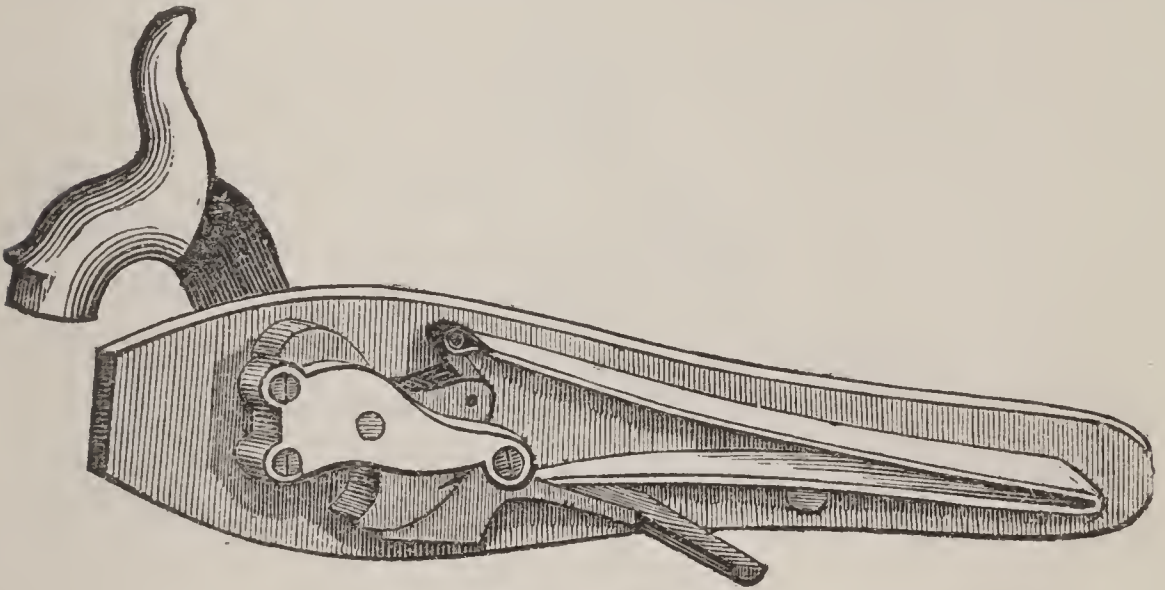

FIGURE 43.
*The Back Action Lock.*—There are various forms of gun locks, and each form has its admirers. The back action shown in Fig. 43 admits of the arm being put together more strongly and securely than any other plan. Other advantages claimed for it